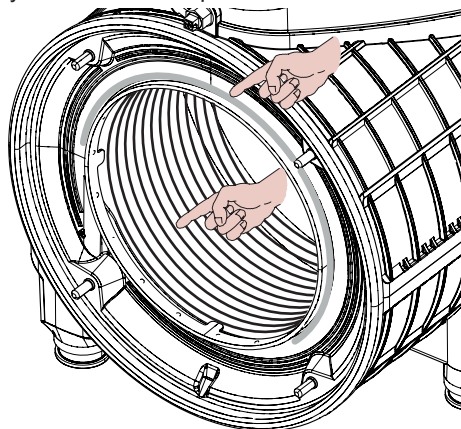

Fig. 10.14
- The silicon seal on the front wall of the combustion chamber Fig. 10.14 must be replaced if worn.
**Caution:** After any periodical servicing or disturbance the combustion chamber silicon seal Fig. 10.14 must be fully inspected and replaced at the discretion of the service engineer.